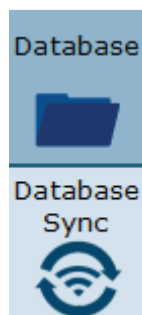

Figure 40: Database Merge Options.
A merge can be performed through either a one-way (from a database archive) or a two-way (from another local or remote system) operation. The method chosen will depend upon the office's setup; typically, if two or more Bertec® computers are connected via a local area network, the two-way operation should be used. The Database Configuration page is used for one-way merging; to access the two-way merging feature, click on the database sync option on the bottom left of the screen. Figure 40 shows where this option is located. Refer to Figure 38 on page 33 if having trouble finding this option.
1. From the Database Configuration page, click on the Database Sync option (located on the bottom left of the screen). Refer to Figure 40 on page 33.